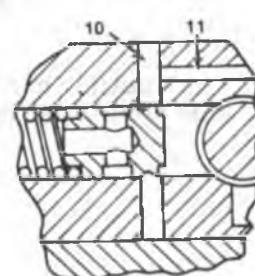
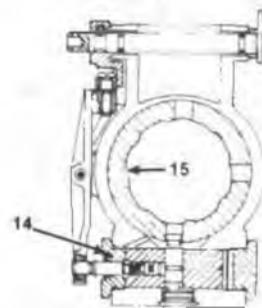
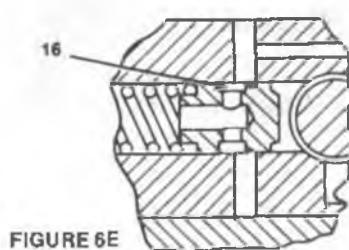

FIGURE 6C
FIGURE 6D
FIGURE 6E
With the servo valve in the position shown in Figure 6C, fuel enters the transverse passages (10) in the advance piston and fills the single longitudinal passage (11) which extends to the piston end. An orifice screw (12) is located at this point to restrict the flow of fuel and to eliminate fluctuations caused by the varying amounts of cam loading during each pumping cycle. Fuel then fills the cavity between the advance piston and the power piston plug (13); the pressure acts on the surface of the piston and urges it, against cam loading force, toward the spring side plug (14). This linear piston motion is converted to a rotary motion of cam (15) which advances the beginning of pumping. See Figure 6D. Advance piston
If the pump speed is decreased, transfer pump pressure also decreases. The reduced force on the servo valve allows the advance spring to move the valve toward the cam advance pin and align the transverse passages (16) in the valve with the passages in the piston. See Figure 6E. Fuel then flows through the valve and into the piston bore. Pressure in the power plug side piston cavity is reduced and the cam loading force urges the valve toward the retard position as shown in Figure 6F. Fuel in the piston bore is vented into the housing. This action continues until the movement of the piston relative to the now stationary servo valve repositions the two parts as shown in Figure 6C and the piston transverse passages are opened to transfer pump pressure.